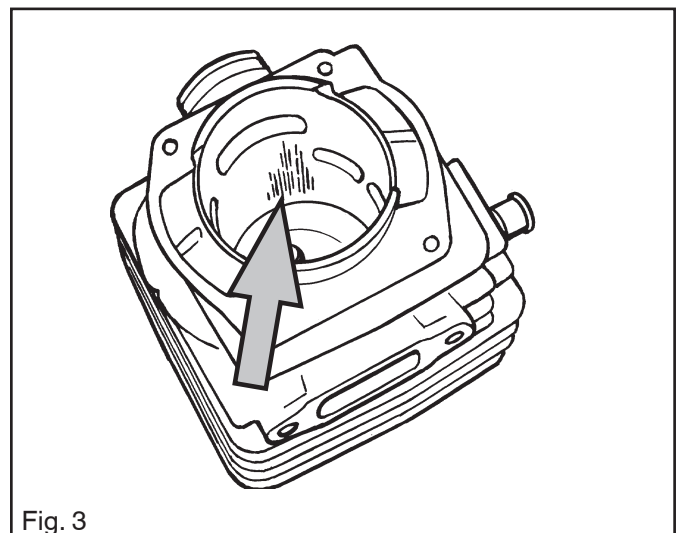

Fig. 3
2. That the cylinder is free of score marks. See figure 3.